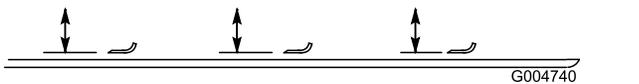

Figure 108
2. Rotate the blade until the ends face forward and backward and measure from the inside of the mower deck to the cutting edge at the front of the blade (Figure 108).